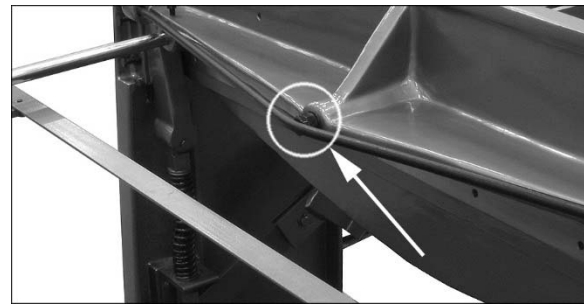

Figure 6
**If shear cuts paper on the ends, but not the center:** Loosen hex nut and turn tie-rod adjusting screw (Figure 6) *clockwise*, as viewed from back, until paper is cut the entire length. Retighten hex nut against frame.
**If shear cuts paper in the center, but not the ends:** Loosen hex nut and turn tie-rod adjusting screw (Figure 6), *counter-clockwise* until paper is cut the entire length. Retighten hex nut against frame.